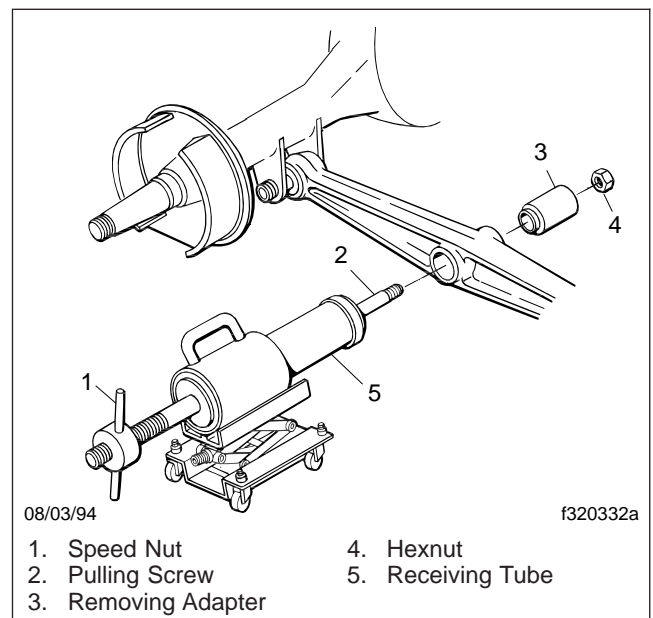

Fig. 2, Removal of the Rubber Center Bushing
8. If using Owatonna tools, remove the rubber center bushings as follows (see Fig. 2):